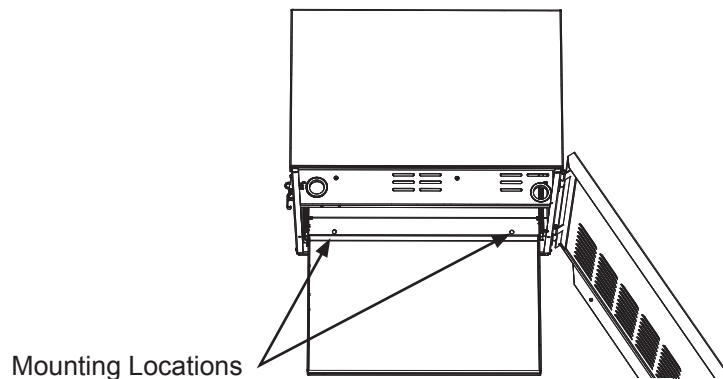

Fig. 1, Mounting Locations
2. Drill through the two existing mounting locations on the enclosure using the .404" drill bit (See Fig. 1).